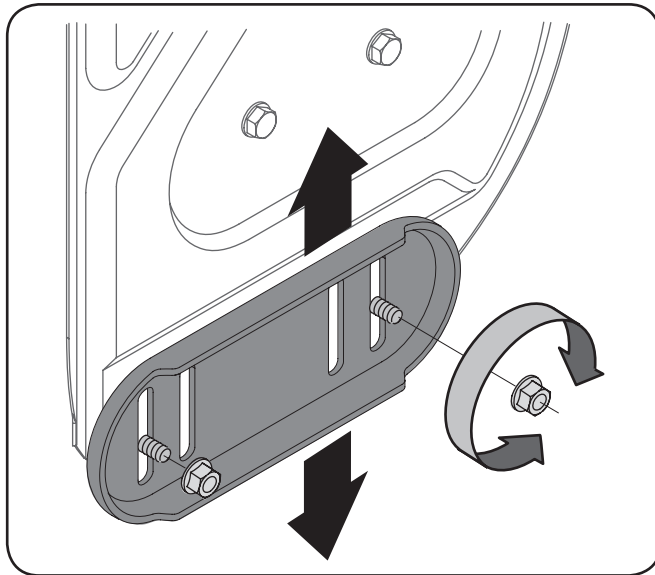

Figure 3-14
1. Loosen the four hex nuts (two on each side) and carriage bolts. Move skid shoes to desired position. See Fig. 3-14.